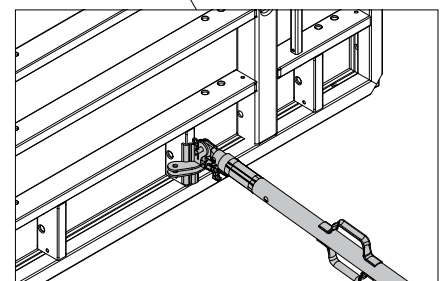

Fig. A3.05
- Prop Connector for connecting the Push-Pull Props, see Section A6. (Fig. A3.05)